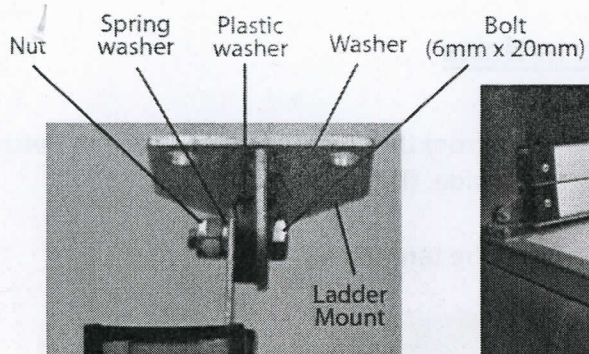

Figure 1
7. Mount the Ladder brackets to the ladder using the supplied 6mm x 20mm bolts, washer, plastic washer, spring washer and nut. See Figure 1.